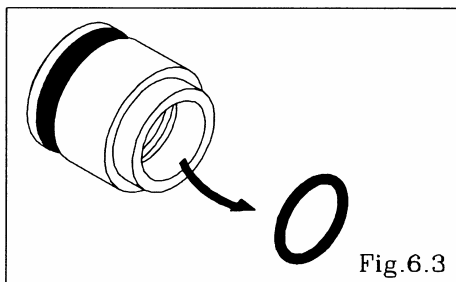

Fig.6.3
- Remove the packing from the throat bearing. [Fig.6.3]